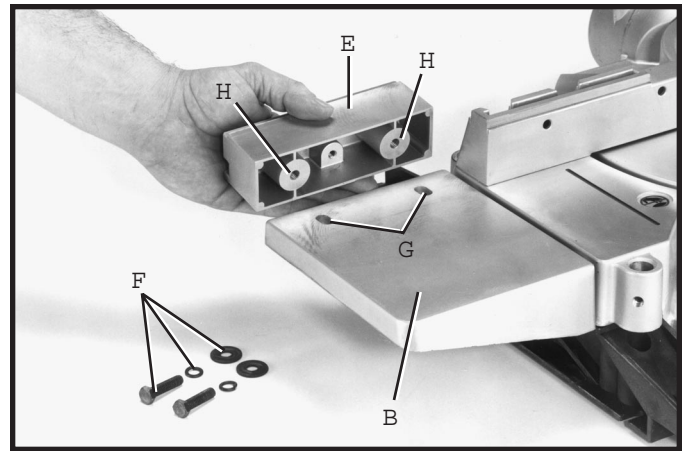

Fig. 7D
4. Assemble the fence slide support (E) Fig. 7D, to the extension table (B) using the two 1-1/4" long hex head screws, 5/16" lockwashers and 5/16" flat washers (F). Bring screws up through the two holes (G) in table extension and thread them into the two threaded holes (H) on bottom of fence slide support. NOTE: Do not completely tighten screws at this time.